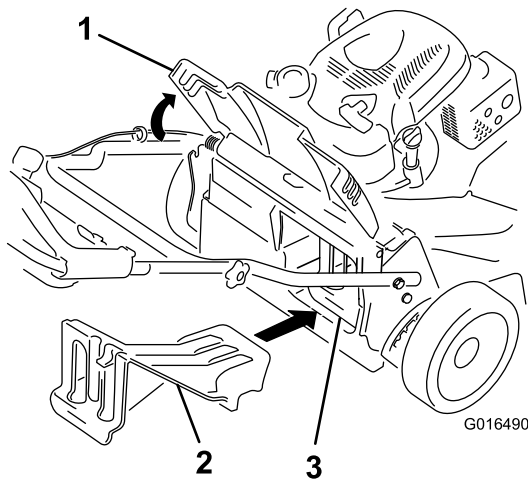

Figure 25
- If the rear-discharge plug is not installed, grip it by the handle, raise the rear door, and insert it into the rear-discharge chute until the latch locks into place; refer to Figure 25.
Important: Ensure that the rear-discharge plug is in place before you recycle the clippings (Figure 25).